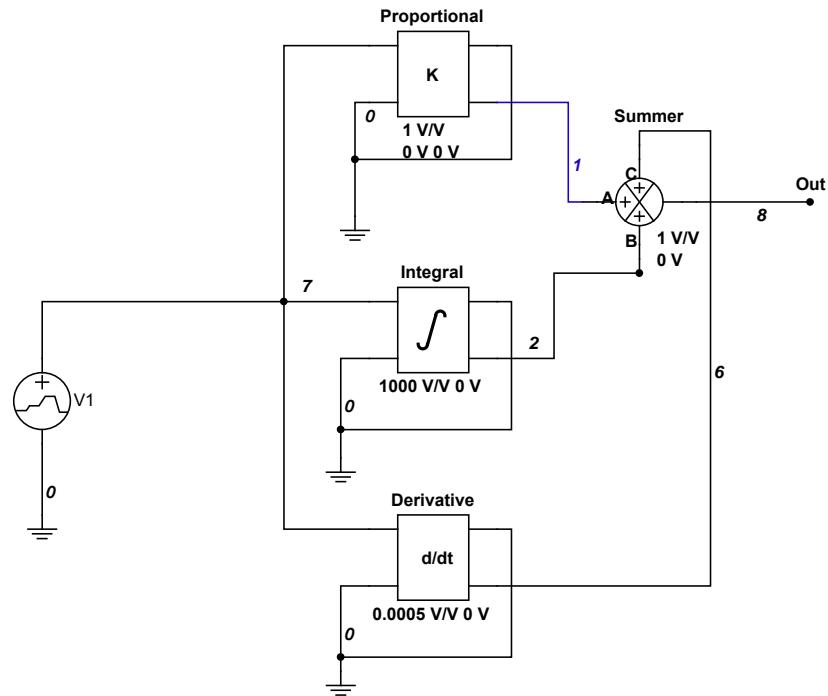

Figure 9-13. PID controller using Multisim
1. Build the circuit shown in Figure 9-13 using Multisim.
2. Change the gain of the summer to -1 in Figure 9-13. Draw the expected waveform in Figure 9-16 and compare it with the one obtained in Multisim.